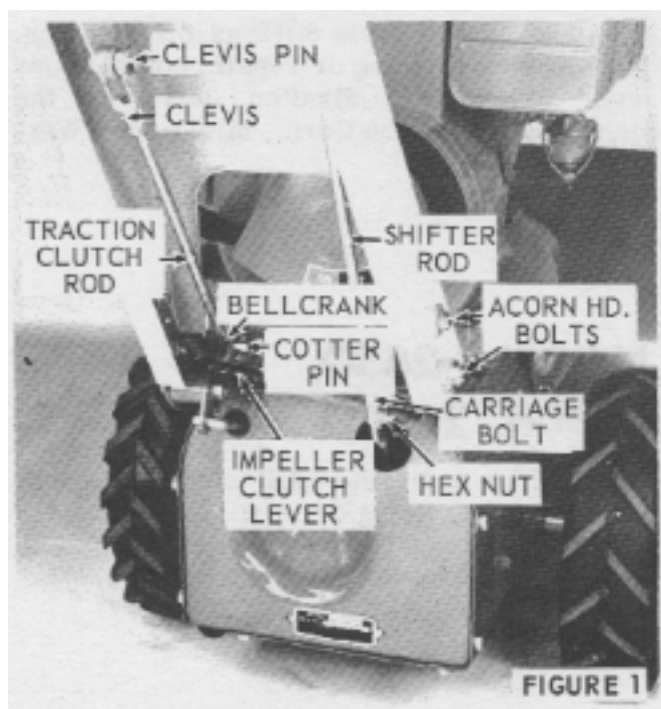

FIGURE 1
- a. Remove clevis pin from clevis on clutch rod. (Fig. 1).
2. Push shifter rod end (Fig. 1) into the unit as far as it will go.